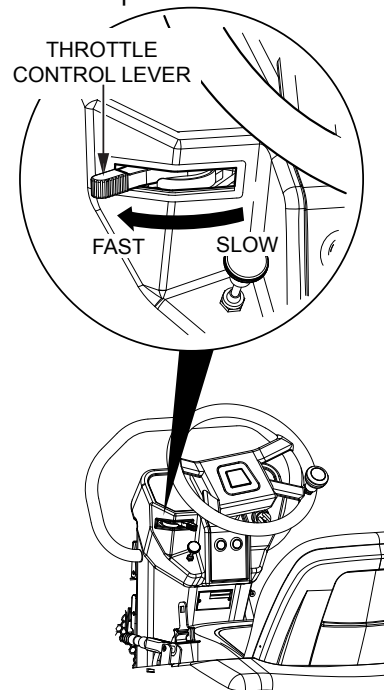

Figure 20. Throttle Control
6. Slide the throttle control (Figure 20) all the way to the left for maximum rpm.